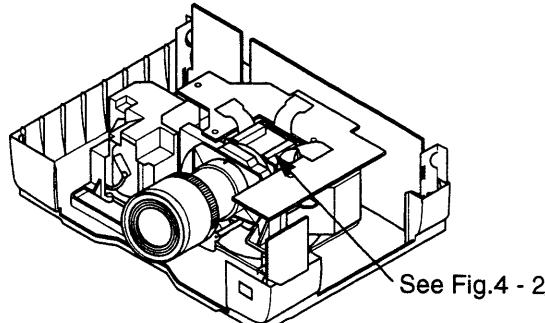

Fig.4 - 1
- ① Apply heat-running for 10 minutes or more before adjustment.
- ② Input a cross-hatch signal to the RGB input terminal with a timing signal of SVGA VESA (60).
- ③ Project about a 40" size image and adjust H.PHASE so that the vertical lines of cross-hatch pattern are seen most clear.
- ④ Loosen 2 screws ② of both the R and B panel's metal fittings. (See Figs.4 - 1 and 4 - 2.)